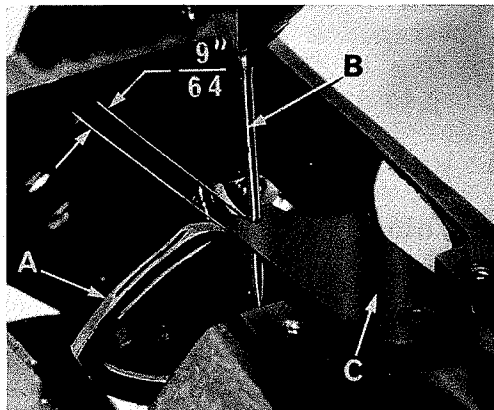
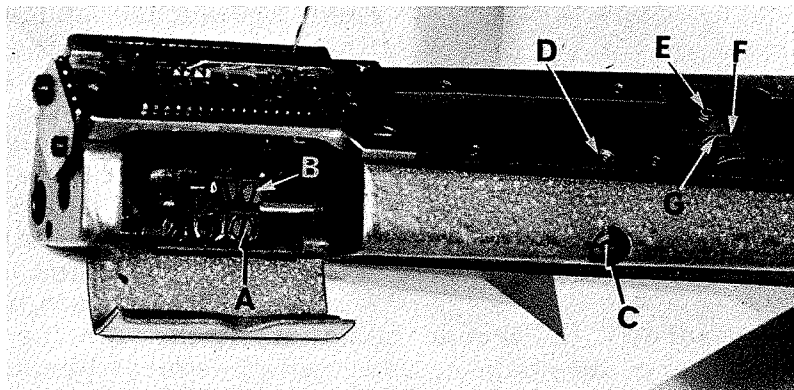
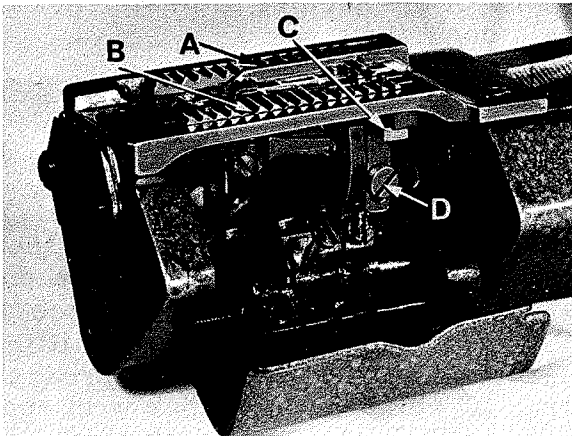

Fig. 5
Fig. 6
Fig. 7
Insert a new set of needles, type and size specified. Always adjust the looper (A, Fig. 5) for the left needle first. Set the looper so that the distance from the center of the needle (B) to the point of the looper (A) is $9/64$ inch, when the looper is at its farthest position to the left. Looper gauge (C) No. 21225-9/64 can be used advantageously in making this adjustment. If adjustment is required, loosen screw (A, Fig. 6) in looper holder, permitting movement in either direction to obtain the $9/64$ inch dimension as shown in Fig. 5. Retighten screw (A). Rotate handwheel in operating direction to assure that the looper point passes to the rear of the needle as close as possible without contacting, and the descending needle barely brushes the back of the looper. This adjustment can be made by loosening screw (B, Fig. 6) very slightly, so the looper can be moved in the holder, but rigid enough to retain its position while rotating machine through its cycle to attain the required movement, retighten screw. Always check the $9/64$ inch looper gauge setting after setting the looper to the back of the needle, and conversely, always check the setting of the looper to the back of the needle after setting the $9/64$ inch looper gauge.
Before assembling the main and differential feed dogs, set the feed bar eccentric pin (C, Fig. 6) located in the left side near center of cylinder, so that the slot in the head is in a horizontal position. This assures a neutral position of eccentricity for the purpose of raising or lowering the height of the main and differential feed bars simultaneously. The feed bar pin is retained in position by set screw (D). Assemble the differential feed dog (A, Fig. 7), main feed dog (B) and throat plate. Both the main and differential feed dogs can be individually adjusted to height due to having elongated slots for their attaching screws. The main feed dog at its highest position, should be set to project above the throat plate, slightly more than the depth of its teeth. The differential feed dog may then be leveled with the main feed dog. Tighten the attaching screws securely.
Should the main feed dog require repositioning due to contact with the throat plate in its forward or rearward travel, loosen set screw (E; Fig. 6) in main feed bar driving link (F) rotate main feed bar eccentric driving stud (G) as required. Driving stud (G) has a thin hexagon head with cut-outs on two of the flats allowing movement by tapping with a sharp pointed tool when a thin open end wrench is not available. Whenever the main feed bar eccentric driving stud position has been changed, re-check rear needle guard setting, adjustment may be required. Retighten set screw (E). Position main feed dog support (C, Fig. 7) flush against bottom of main feed dog (B), tighten support screw (D) securely.